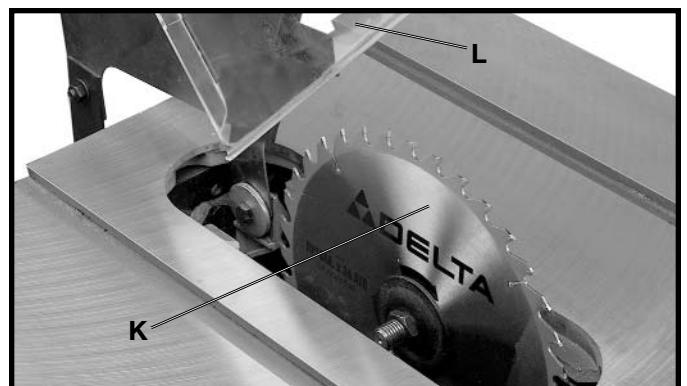

Fig. 36
9. With the blade guard (L) Fig. 36, in the raised position, assemble the saw blade (K) on the saw arbor with two arbor wrenches supplied.